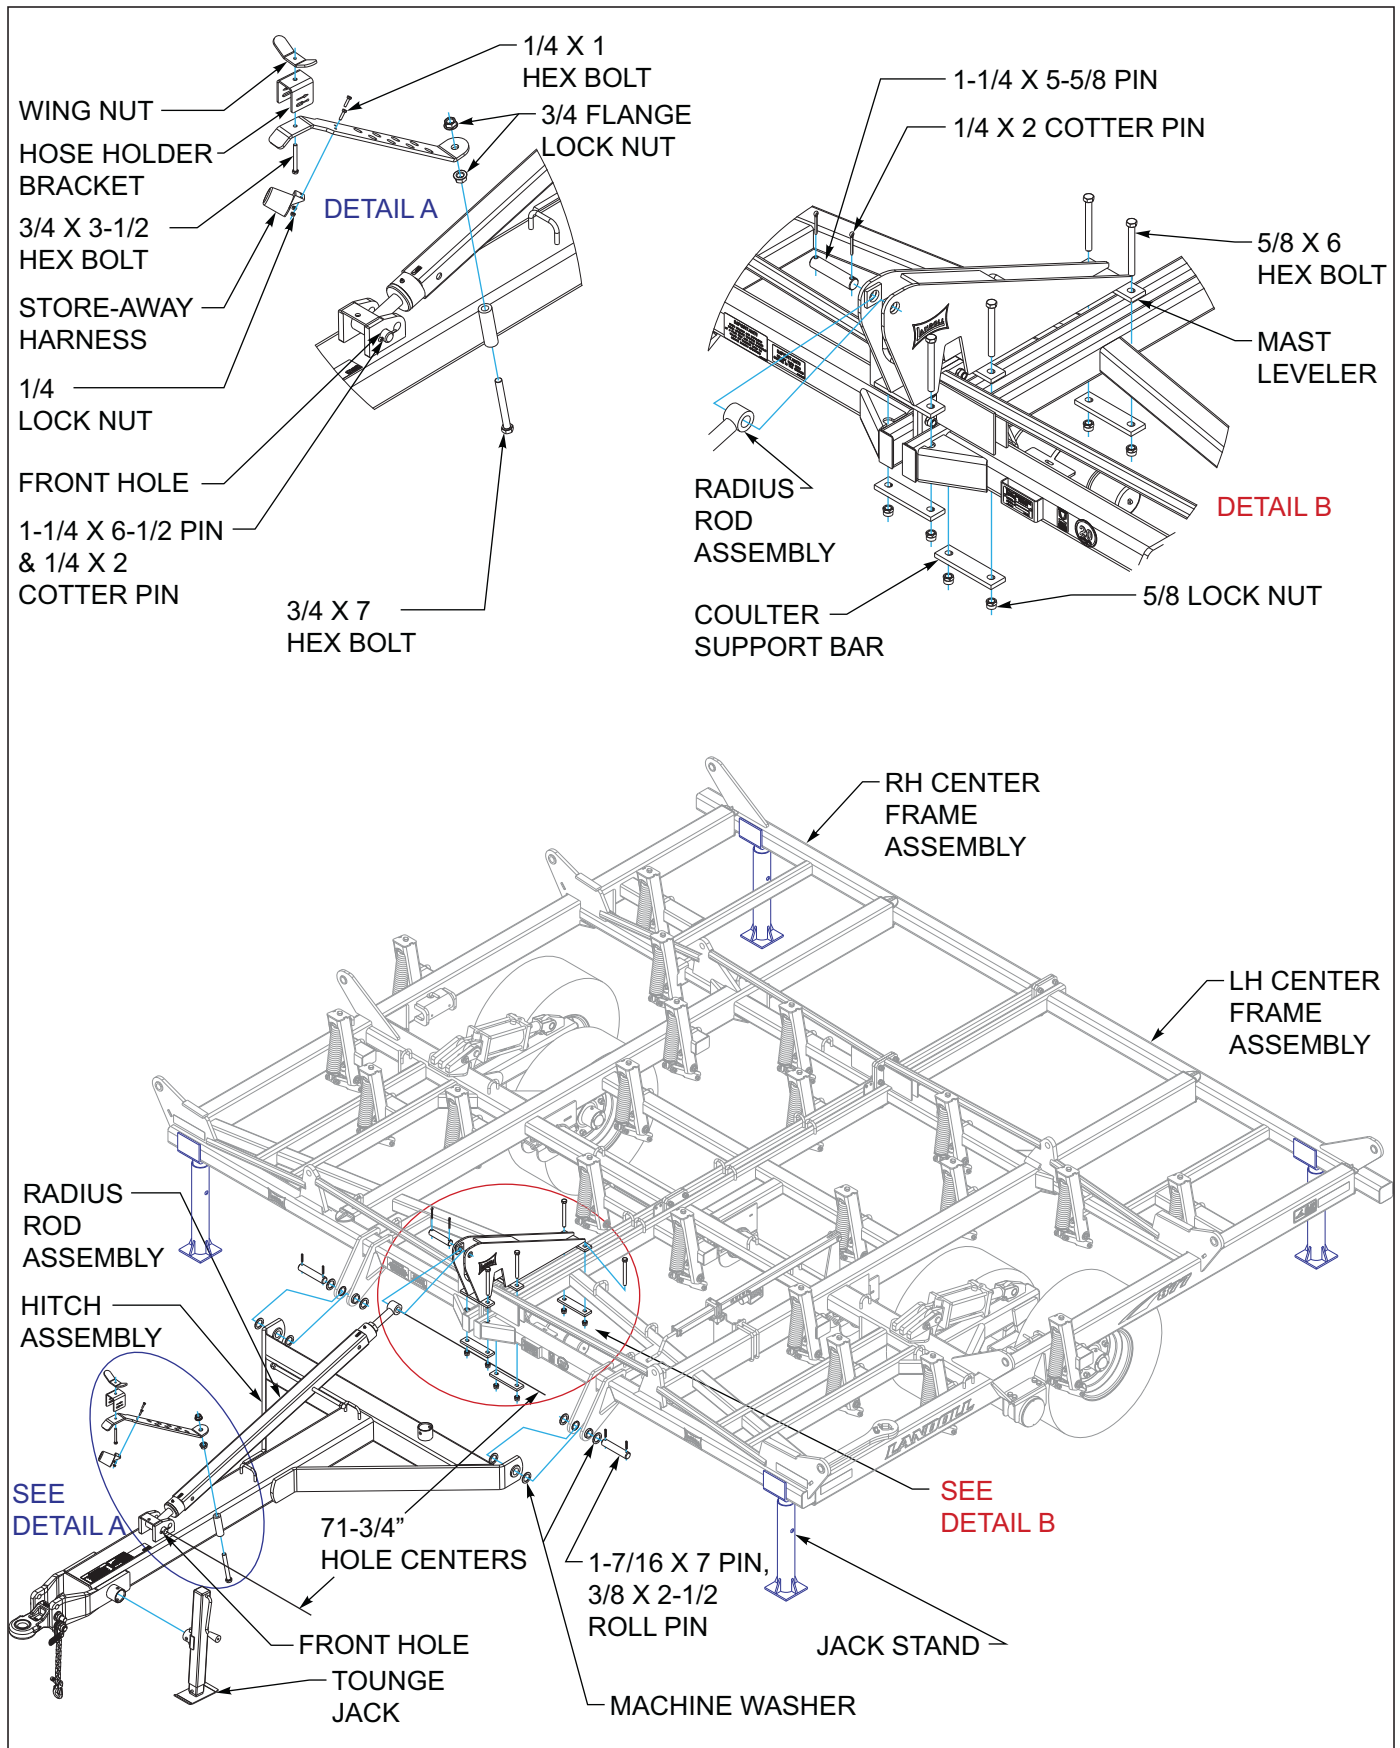

Figure 3-3: Hitch Assembly
1. Attach the rear of the hitch assembly to the front of the center frame using 1-7/16 x 7 pins, machine washers, and 3/8 x 2-1/2 roll pins *See Figure 3-3*.